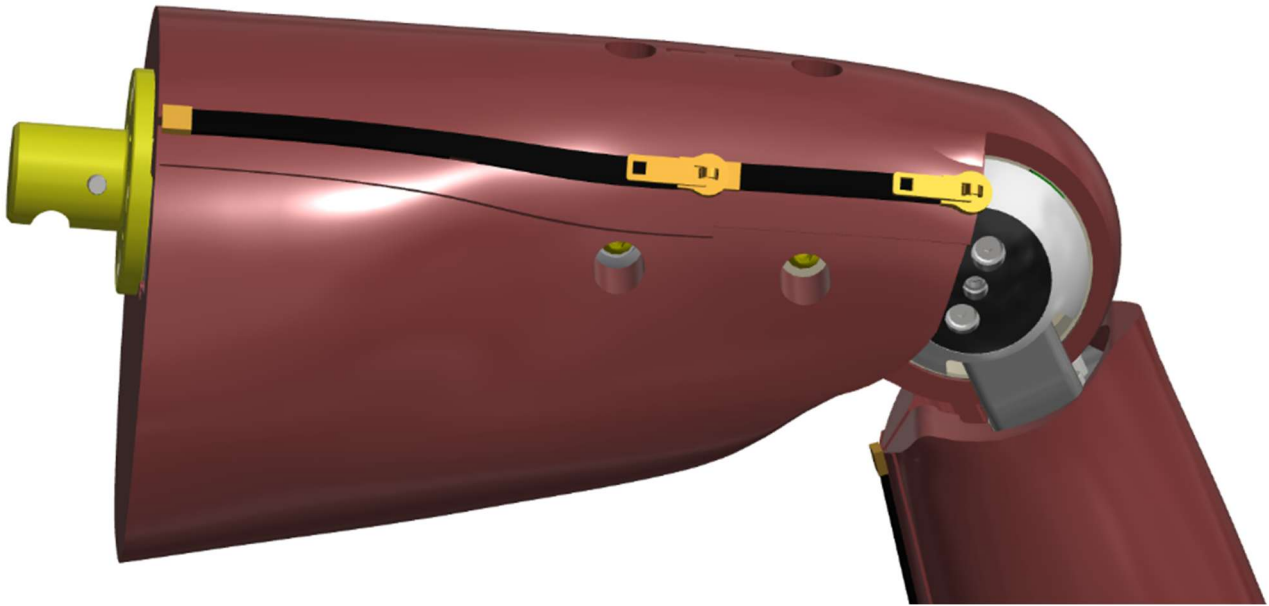

Figure 9-10. Unzip the Upper Leg Flesh (474-5122-1,2)
9.2.3 Unzip the Upper Leg Flesh (474-5122-1,2) (Figure 9-10).